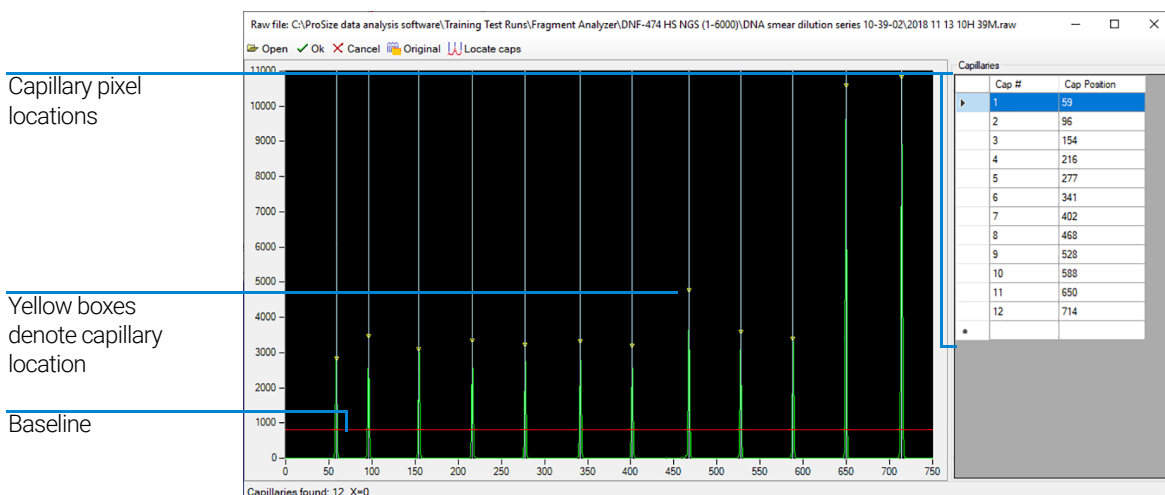

Figure 30 Align from file popup window for 12-capillary system
The *Align from File* window will open (**Figure 30**). It allows you to align the capillaries from the selected run file. The toolbar of the *Align from File* windows is described in **Table 9**.
- 7 Left-click the red baseline and draw it upwards off the bottom of the graph but not above the top of capillary peaks, as shown in **Figure 30**.